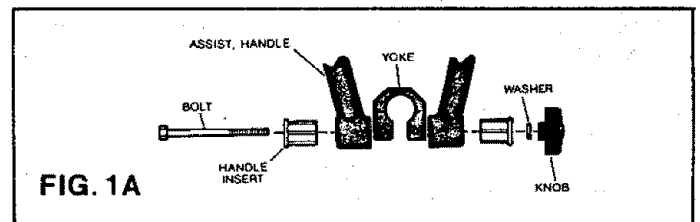

FIG. 1A
1. Remove the bolt and knob from assist handle, being careful not to lose washer. Slide out yoke (see Fig. 1A).
4. Locate the assist handle on the yoke (Fig. 1) and replace all parts as shown in Figure 1A.